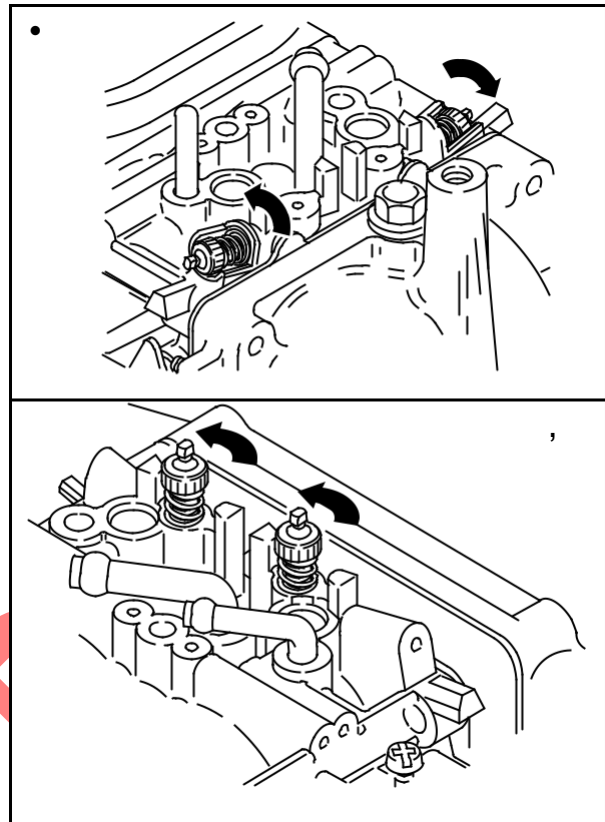

Fig. 18
The OHV twin cylinder engine carburetor fuel mixture adjustment procedure is unique. Perform adjustments exactly in the sequence shown. Horizontal crankshaft engines (1) and vertical crankshaft engines (2) are shown in **Fig. 18**.
Turn idle mixture screw for #1 cylinder CLOCK-WISE until it just seats. DO NOT FORCE, **Fig. 18**.